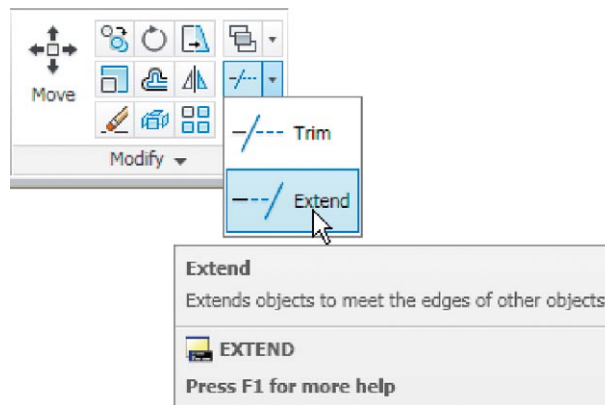

Fig. 5.39 The **Extend** tool icon from the **Home/Modify** panel
2. Call **Extend** – either *click* the **Extend** tool icon in the **Home/Modify** panel (Fig. 5.39), *pick* **Extend** from the **Modify** drop-down menu or *enter* **ex** or **extend** at the command line which then shows: